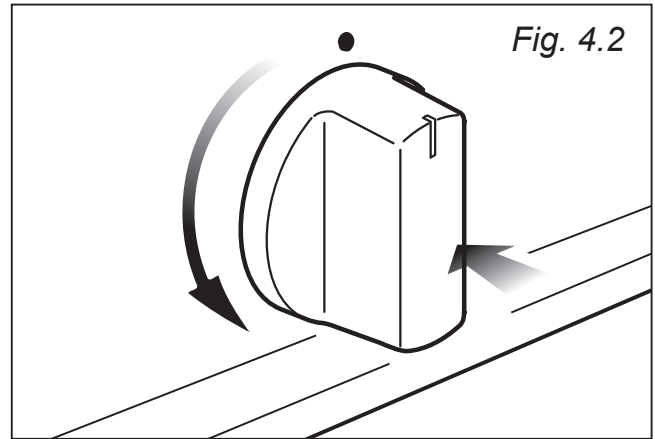

Fig. 4.2
2. Lightly press and turn the thermostat knob anti-clockwise (fig. 4.2) to maximum position **Max★** (fig. 4.1). Press the knob firmly until the burner lights.